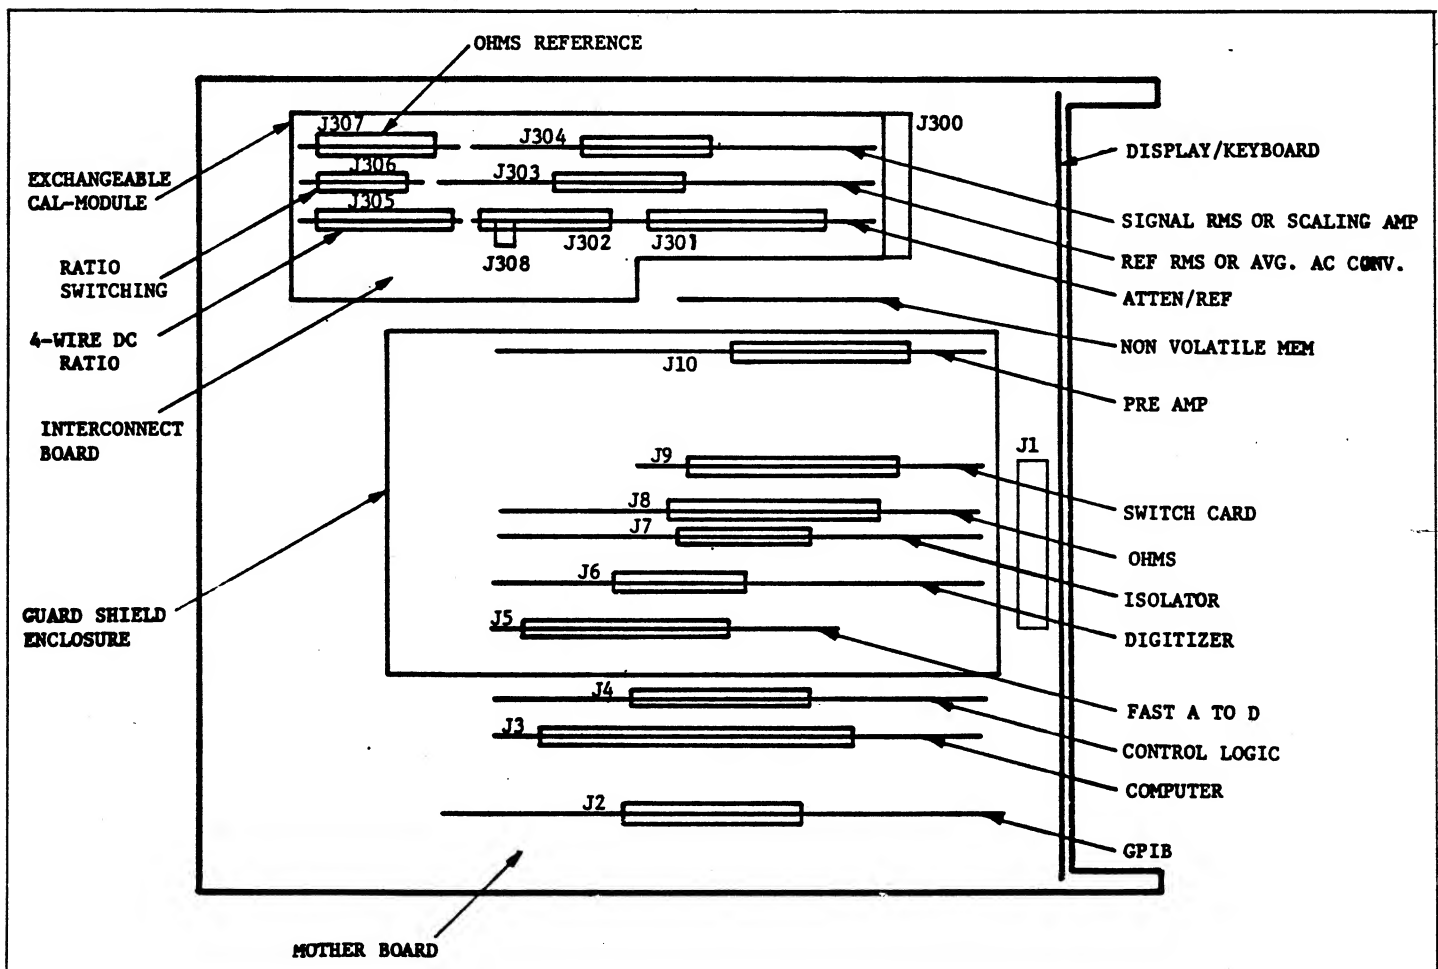

Figure 6.1 - PC Board Locations
6.3.1 Access to the DMM circuitry may be made as follows (reference Figure 6.1):